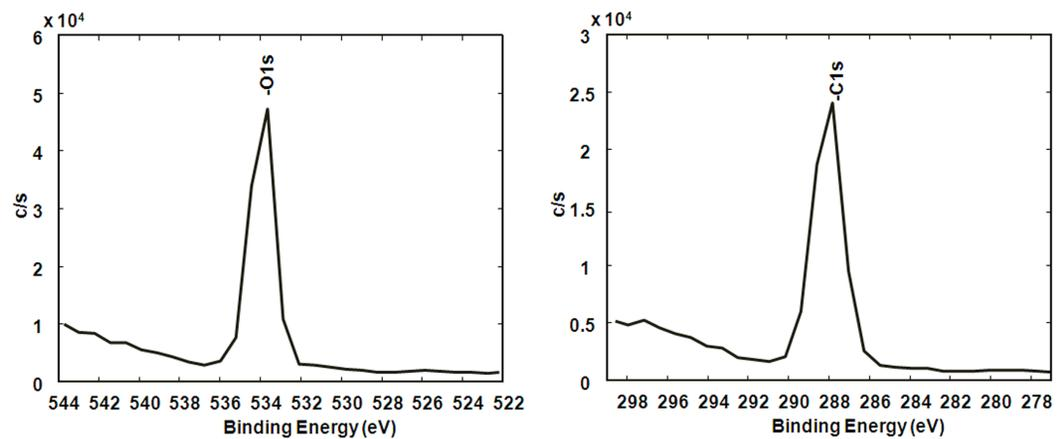

Fig. S5 XPS spectra of O1s and C1s regions of unmodified filter paper.
- 10 **Fig. S5** XPS spectra of O1s and C1s regions of unmodified filter paper.